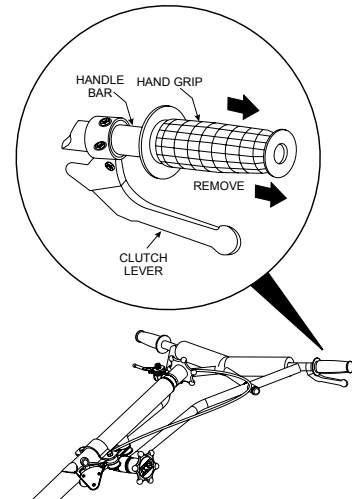

Figure 14. Hand Clutch Lever Installation
2. Remove the hand grip on the operator-preferred side of the trowel handle and mount the hand clutch lever onto the trowel handle. Insert the fitting on the clutch cable into the hand clutch lever and route the cable down the handle and up through the guard ring as shown in Figure 14.